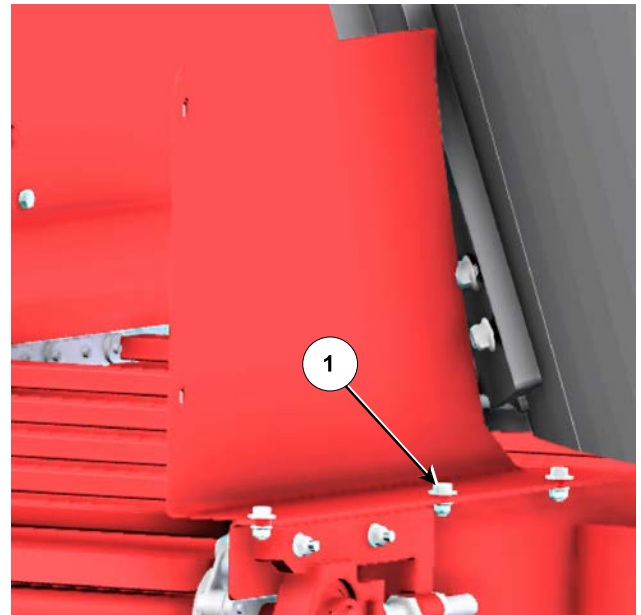

Figure 9: Attach the Left Rear Conveyor Side Shield
13. Attach the left rear conveyor side shield to the conveyor, see *Figure 9*.
- Fasten the shield with 3 of 5/16" x 3/4" hex bolts (1), flatwashers and flange locknuts.